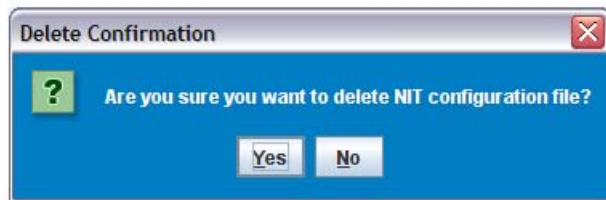

Figure 305. Delete Confirmation
3. The delete confirmation box appears (Figure 305).